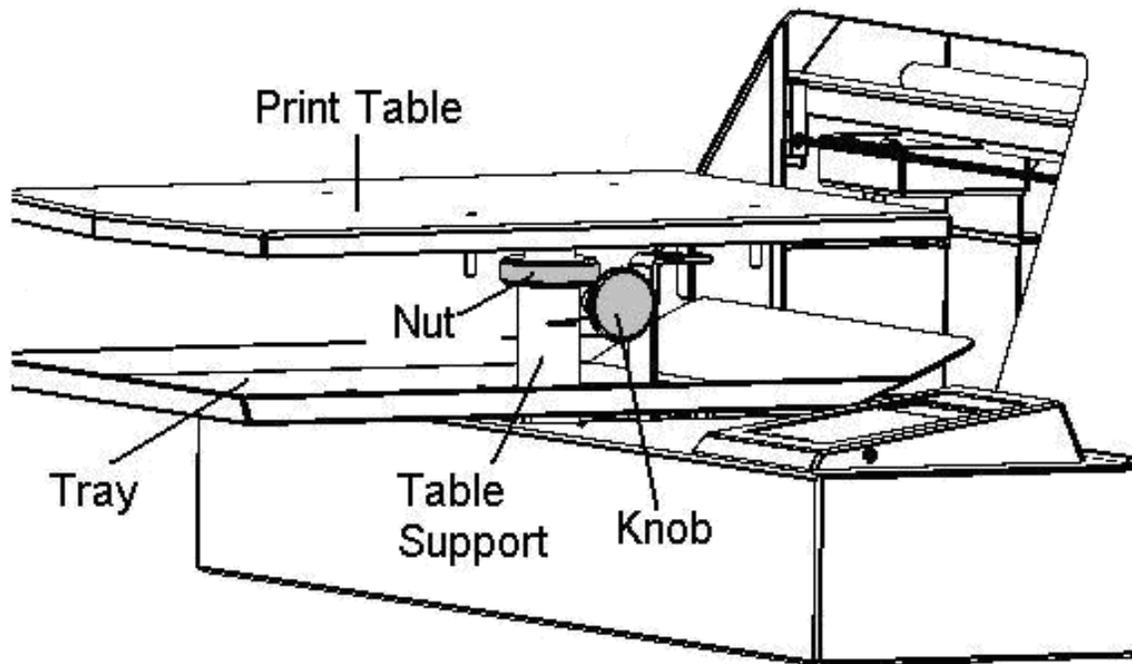

Figure 4.4 Print table adjustment diagram
Print table height is adjusted by turning the “nut” on the “table support bar”. The “knob” located beneath the print table must be loosened by turning it counter clockwise prior to any other adjustments (See Figure 4.4). To raise the Table, turn the Nut clockwise (when viewed from the top). To lower the table, turn the nut counter clockwise. Once you have achieved the correct height, tighten the “knob” by turning it clockwise to lock in the table height.
2. Loosen the knob under the print table (Figure 4.4)